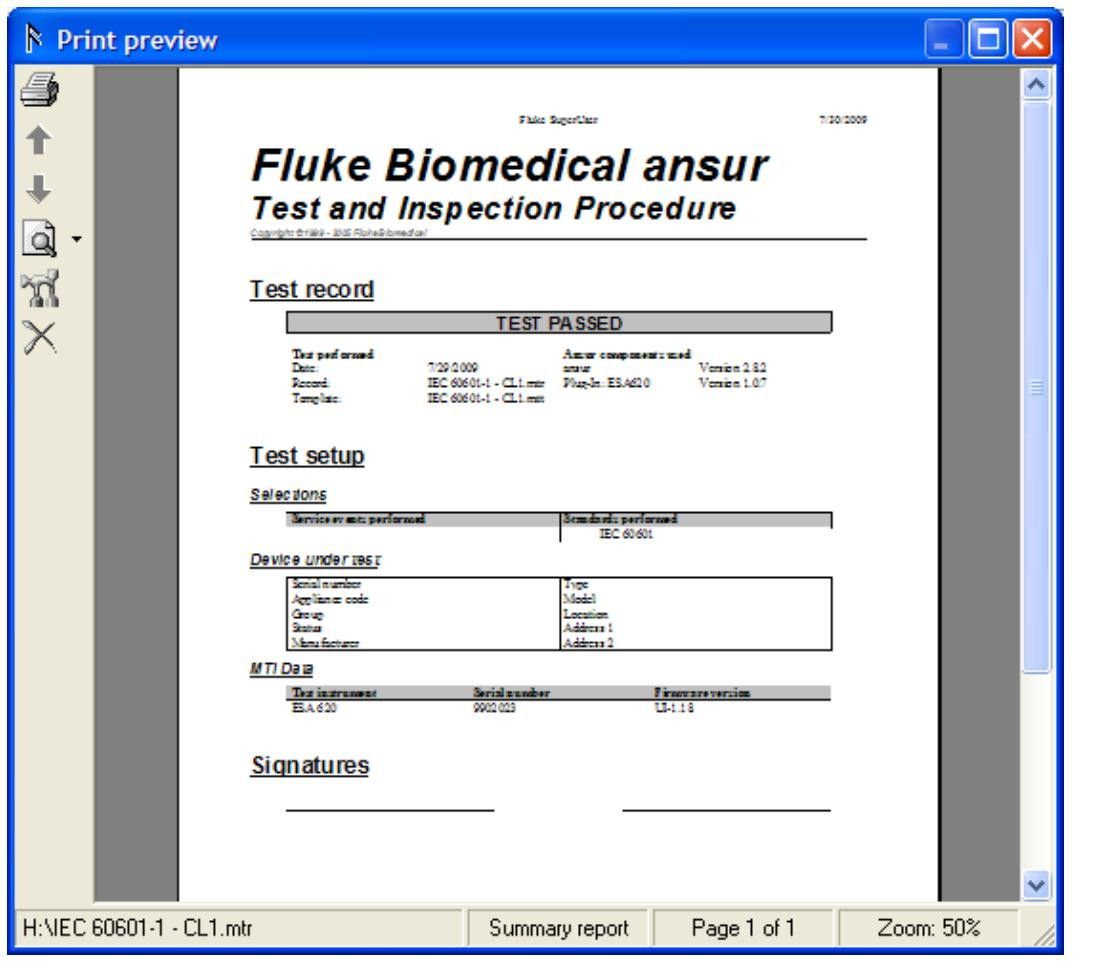

Figure 3-16. Print Preview of Test Report
2. Select the desired print type and click the Print button to display the report in the preview window as shown in Figure 3-16.